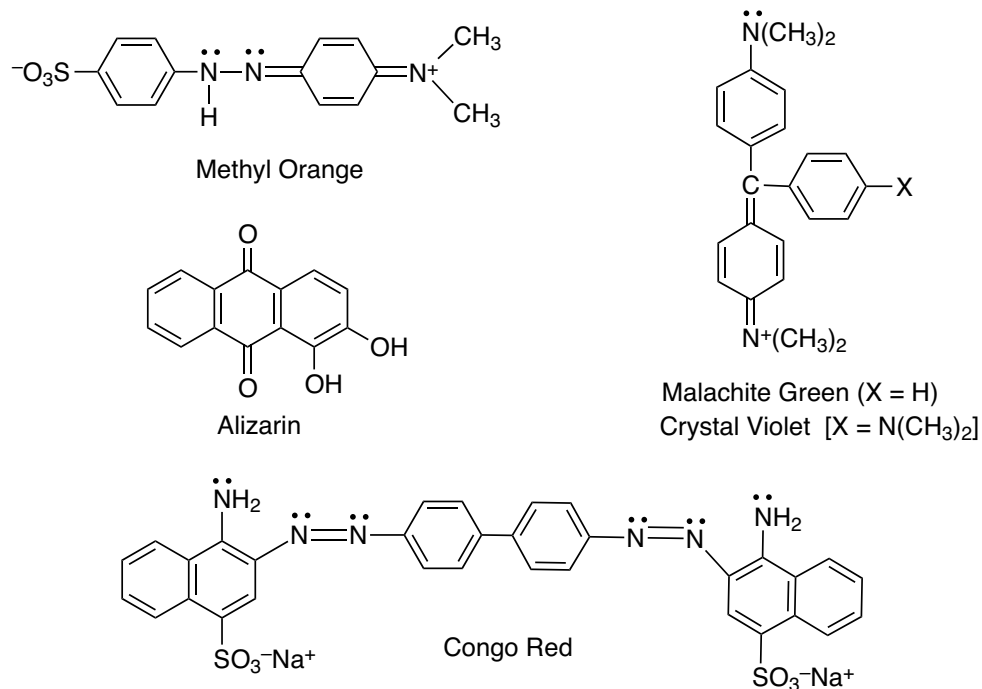

Figure 2. Chemical Structures of Dye Molecules.
The purpose of this activity is to investigate the interaction of dyes with different fabrics. The dyes are methyl orange, malachite green, and crystal violet (direct dyes); congo red (a substantive dye); and alizarin (a mordant dye). See Figure 2 for the structures of the dye molecules. The dyes will be tested on a multifiber test fabric that contains strips of six different fibers—wool, acrylic, polyester, nylon, cotton, and acetate (Figure 3).
- Consult Figure 2: Which two dyes have very similar structures? Compare the relative color intensities produced by these dyes on the different fabrics in the multifiber test fabric. Are the color patterns (from lightest to darkest) similar for these two dyes? Explain.